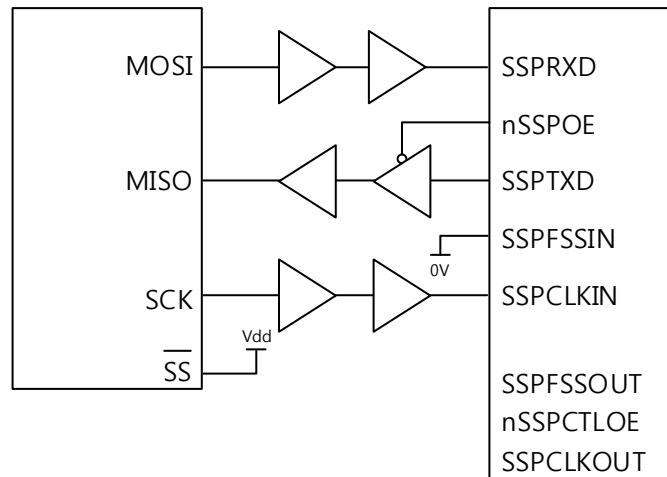

Figure 78. SPI master coupled to a PrimeCell SSP slave
Figure 78 shows a Motorola SPI configured as a master and interfaced to an instance of a PrimeCell SSP (PL022) configured as a slave. In this case, the slave Select Signal (SS) is permanently tied HIGH to configure it as a master. The master can broadcast to the slave through the master SPI MOSI line. In response, the slave drives its nSSPOE signal LOW. This enables its SSPTXD data onto the MISO line of the master.